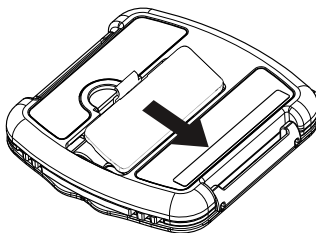

Figure 3. Removing battery cover.
2. Press back lightly on the latch of battery compartment cover, swing the cover open, then remove the cover (Figure 3).